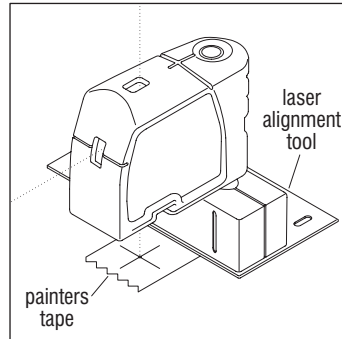

Figure 1
1. Preparation - measure and mark according to the final KI-Installation Drawing (shop prints) using a laser alignment tool (Figure 1).